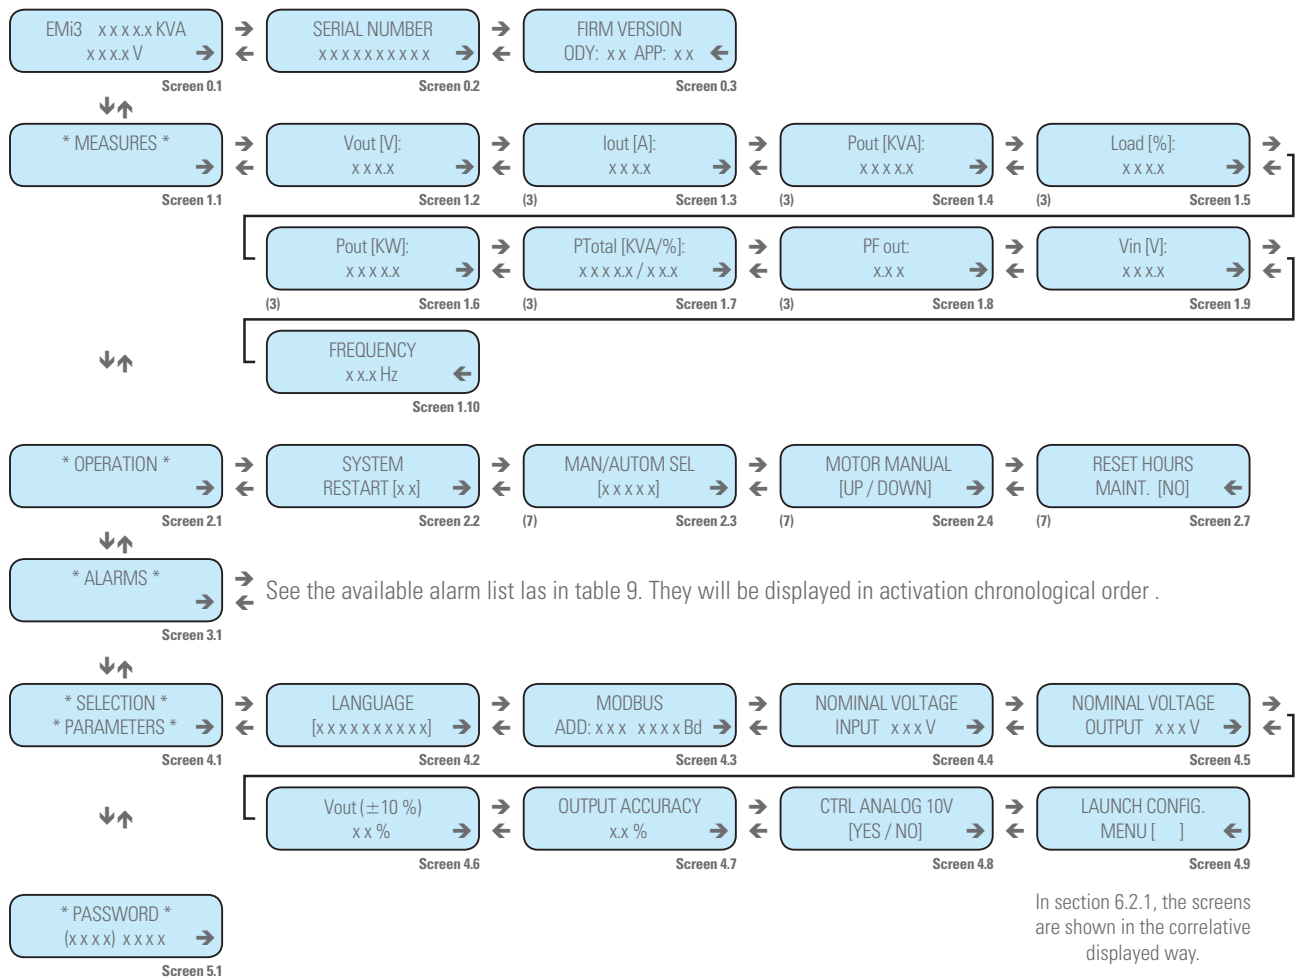

Fig. 19. Single phase stabilizer screen map.
- The screen map of Fig. 19 and 20 are exploded with all submenus of the single and three phase equipments, even with the ones protected by «Password». Keep in mind this notes: